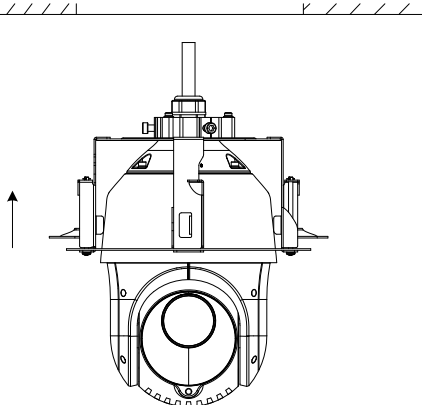

Figure 2-14 Push to the Mounting Hole
- 2) Push the speed dome according to the direction of the arrow in Figure 2-14 to the mounting hole.